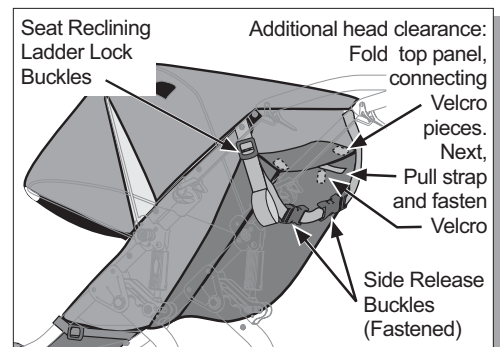

Fig. 22 Seat in fully upright position. (single seat shown)
- To partially recline seat, rotate the ladder lock buckles forward thus releasing the reclining straps. (Fig 22)
To raise the seat to the fully upright position, fasten side release buckles and pull the reclining strap loops. (Fig. 22 & 23).
connect Velcro on seat back. This strap tension will keep the top of seat (padded panel) perpendicular to the seat back. (Fig. 22)